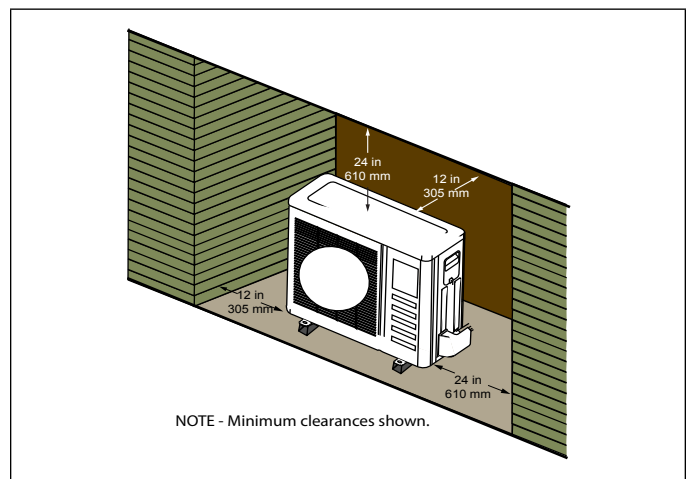

Figure 21. Unit installed in Alcove
- Outdoor unit can be installed in a alcove or under a roof overhang as illustrated in "Figure 21. Unit installed in Alcove"